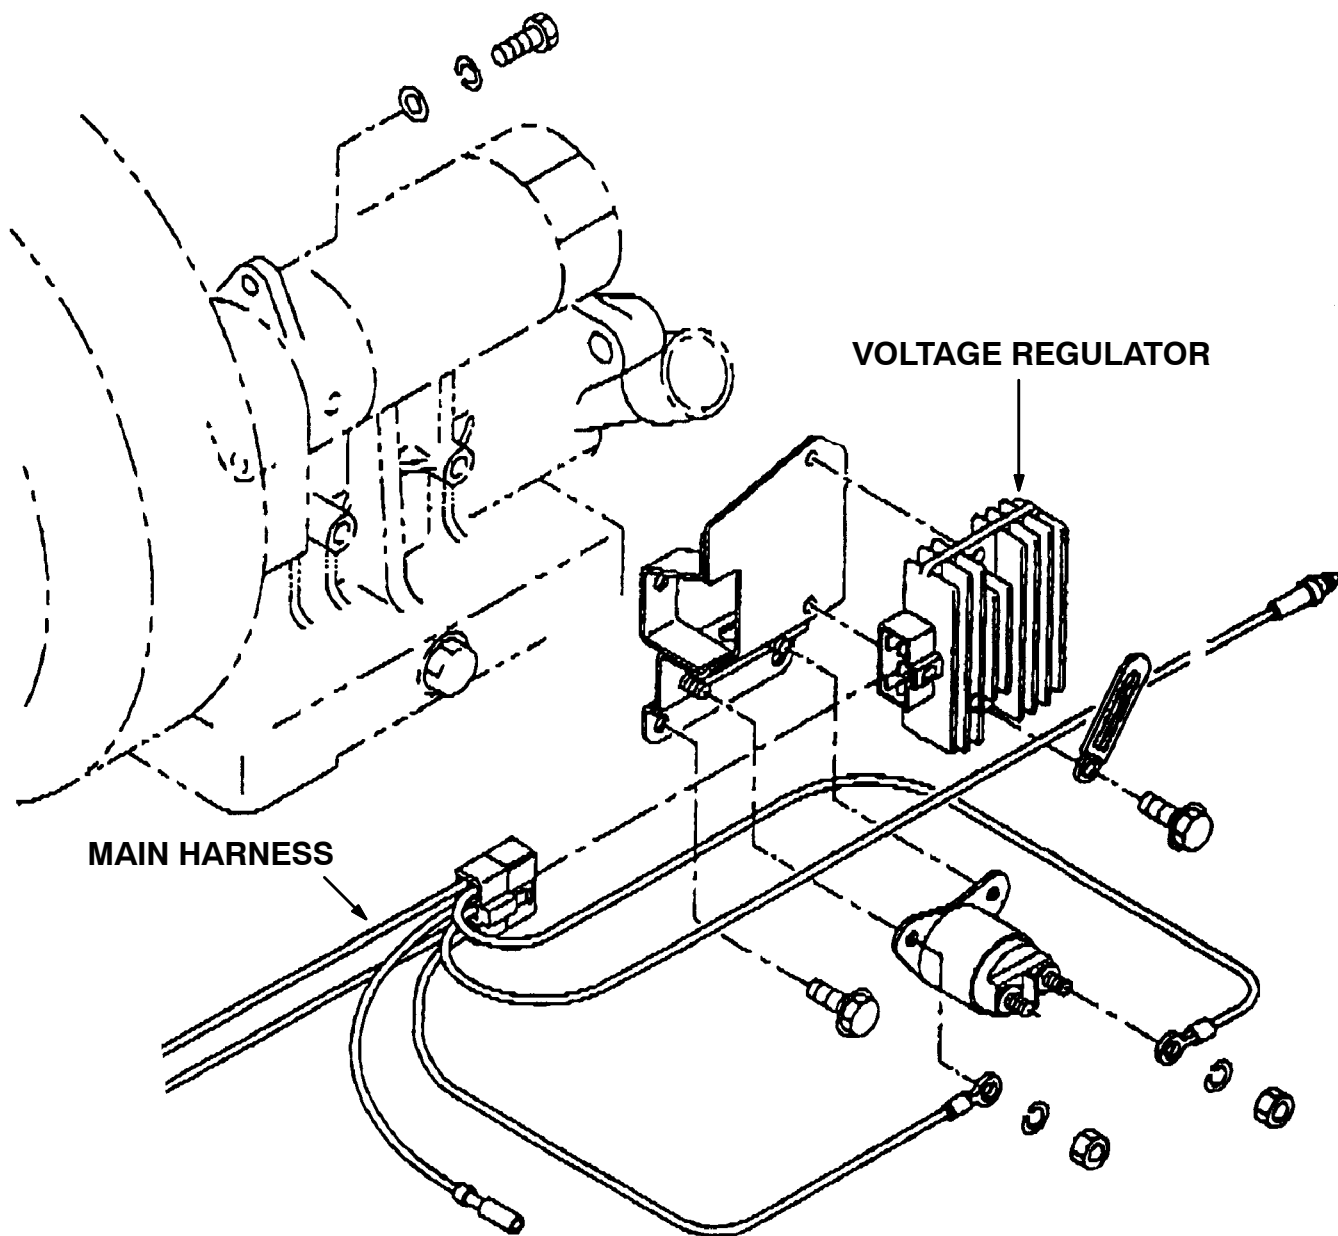

FIG. 5 - REGULATOR AND SOLENOID GROUP
9. Remove the engine voltage regulator from the engine and disconnect it from the main harness. (Refer to FIG. 5)